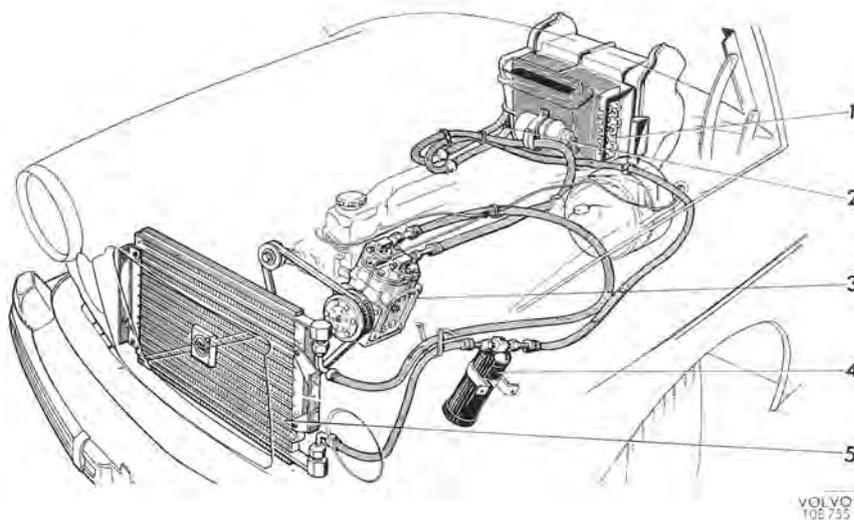

Fig. 8-40. Cooling system
The cooling system in the unit is of the compressor type, which means that the circulation of the refrigerant is carried out by a compressor. The system is divided up into the main components: evaporator (1, Fig. 8-40), thermostatic expansion valve (2) compressor (3), dryer (4), and condenser (5). The evaporator and expansion valve are placed in front of the heater system cell assembly inside the passenger compartment and the other components in the engine compartment.